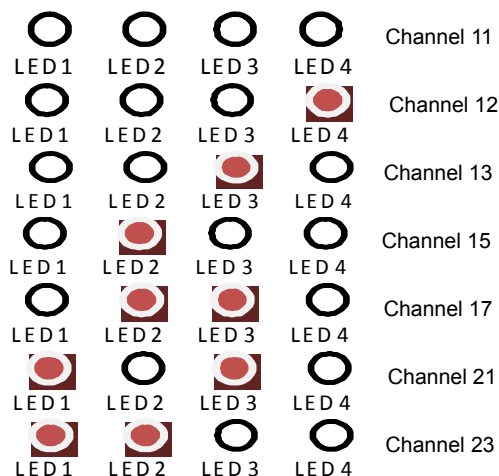

Figure 2-10. Binary Channel LED Display (partial)
- By pressing SW1 or SW2, the LEDs display the current channel number (using binary) as shown in Figure 2-10. The LED display is persistent for few seconds to allow users to see which channel is currently selected. Channels range from 11 to 26 and only a partial list is shown in Figure 2-10.